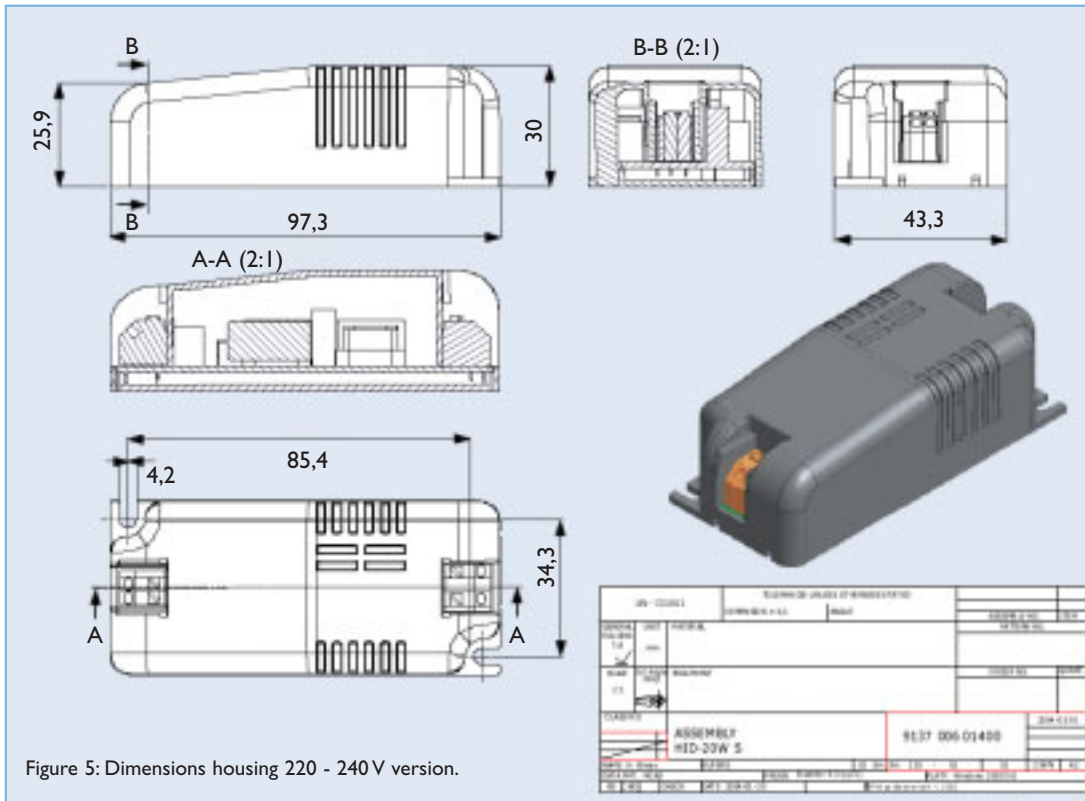

Figure 5: Dimensions housing 220 - 240 V version.
- High Voltage: The shape of the gear housing of the engineering sample differs slightly from the final specification (see figure 5).